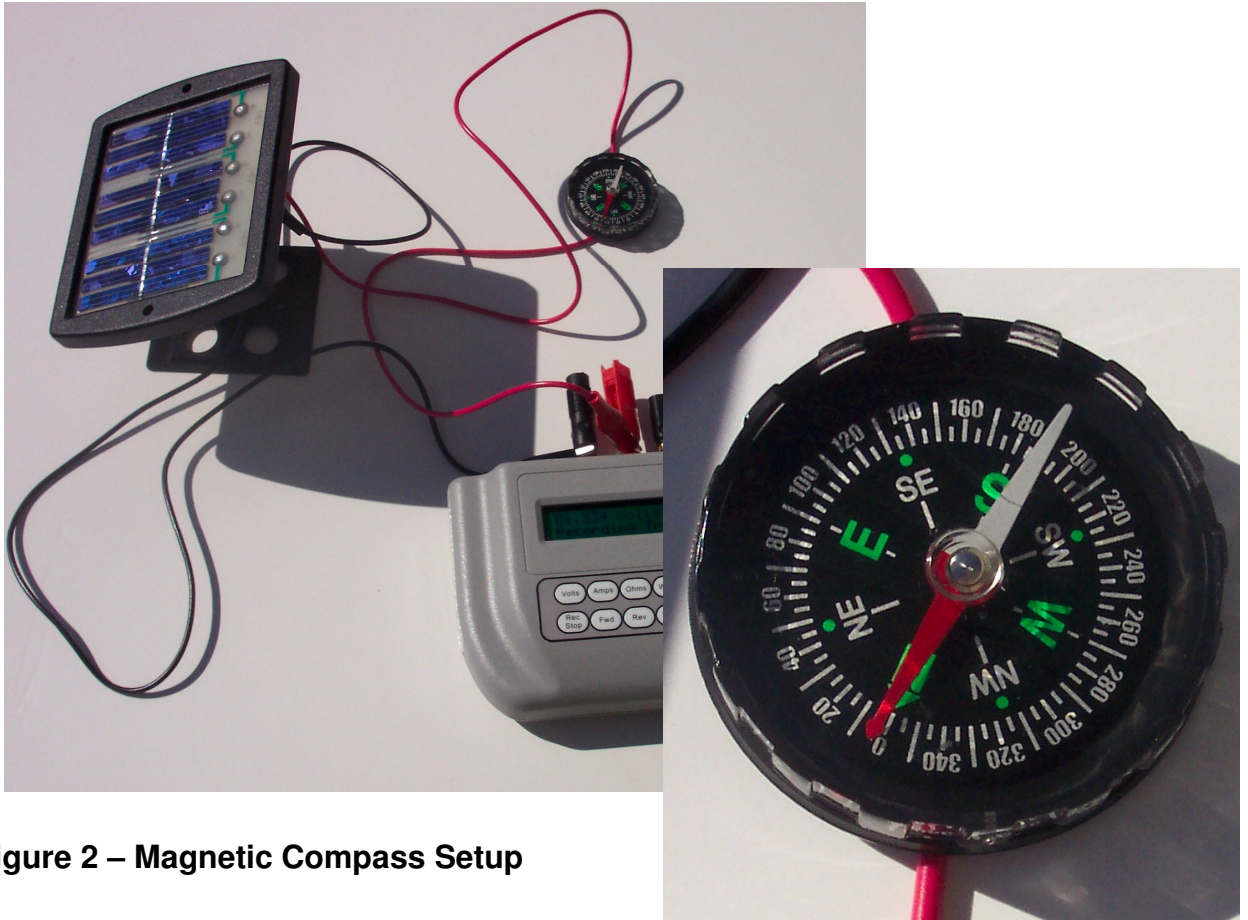

Figure 2 – Magnetic Compass Setup
2. Place the magnetic compass over one of the wires that are connected between the solar panel and the **Smart Meter – Data Logger™** as shown in Figure 2 below. Align the compass pointer so that it points to North.
- Push the **Track** key until the **View Trackx Data** message is displayed. Keep pushing the **Track** key until the correct Track number is selected. The computer should begin displaying the data plots for the previous day's data. The data should look like Figure 2 below (although your data may not be as consistent due to weather related issues like clouds blocking the sun, etc.). Adjust the horizontal plot until a similar display is shown.